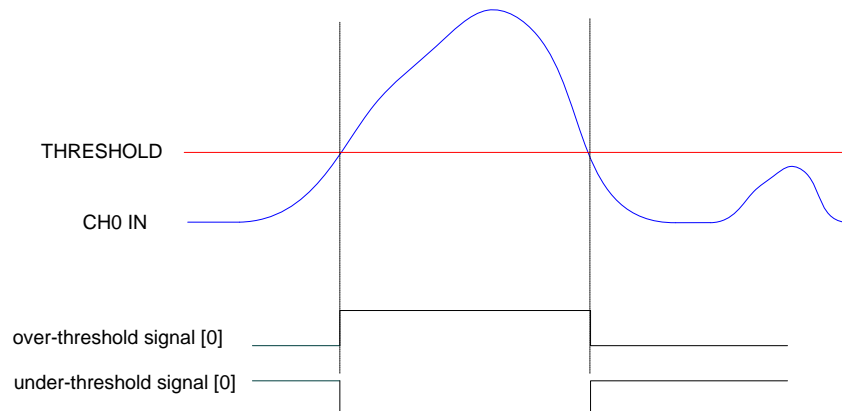

Fig. 9.13: Channel over/under threshold signal
- an *over/under-threshold signal* (see **Fig. 9.13**). This signal can be programmed to be active (i.e. "1") as long as the input pulse stays over the threshold or under the threshold (depending on the trigger polarity bit at register address 0x8000).